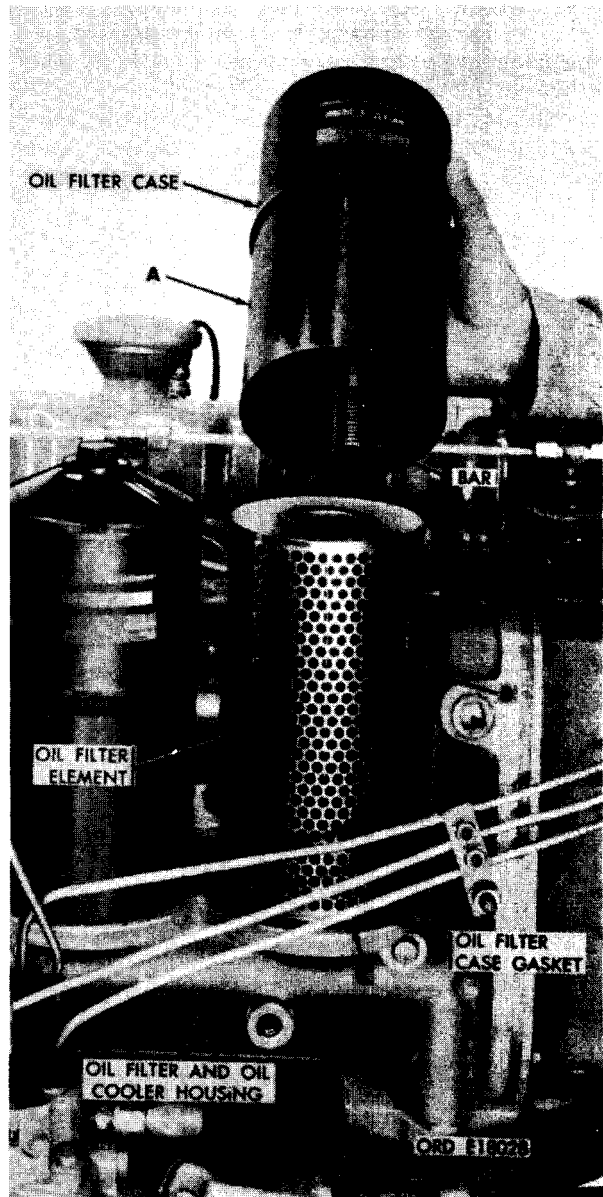

FIGURE 106. REMOVING OR INSTALLING OIL FILTER ELEMENT.
Note. The bar and case are removed as assembly as shown in figure 106.
- (2) Figure 106. (A) Remove oil filter case and bar as an assembly. (B) Remove and discard oil filter element (C) Remove and discard oil filter case gasket and bar gasket.